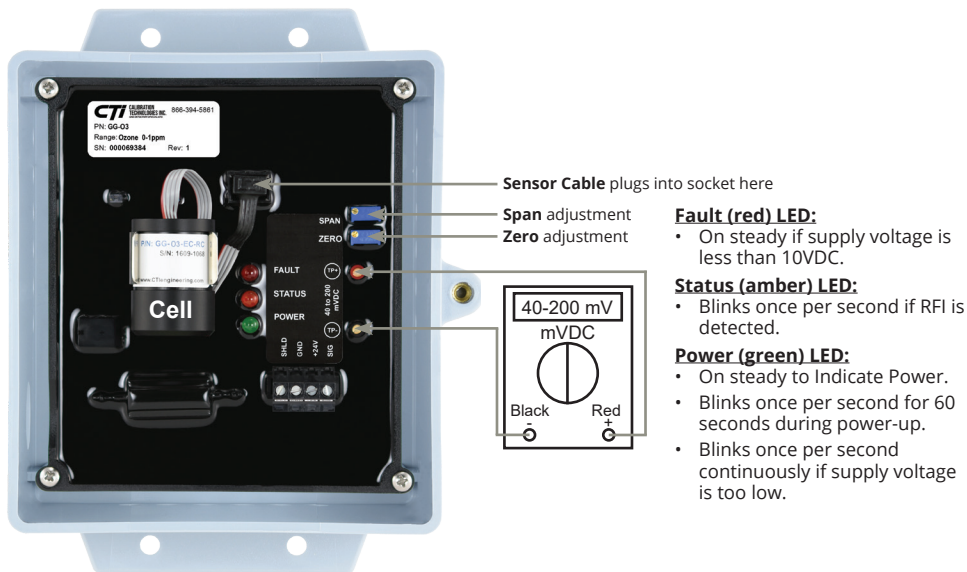

Figure 2: Sensor board components and zero/span adjustment
LED functions (see **Figure 2** on page 8)
The GG-03-A sensor comes factory calibrated and should require only minimal adjustments after installation. There are two pots on the preamp that are used for calibration (see Figure 2).
- Adjust the zero pot until the sensor outputs 40 mV from Test [-] to Test [+] (see Figure 2).
- Once the output signal has peaked (or five minutes maximum) adjust the span pot until the correct output is achieved (see **Figure 2**).